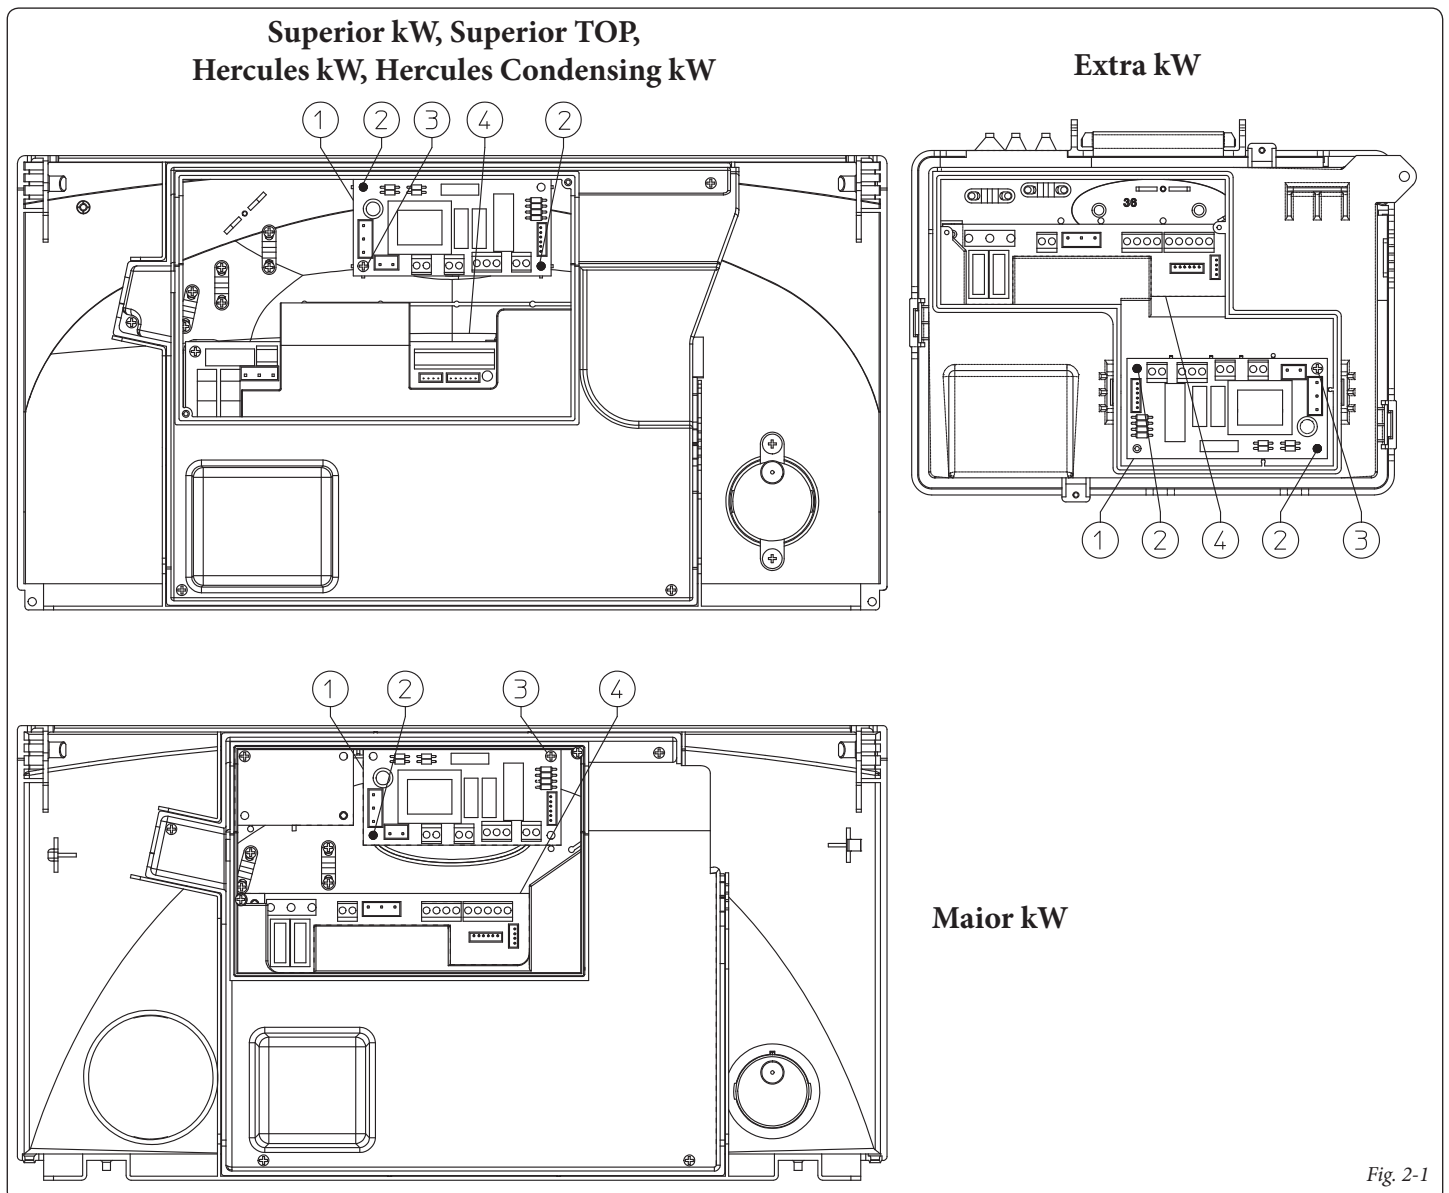

Fig. 2-1
- Mount the board making the male pins (2) match the holes in the board (1) and fix it using the cross-head screw (3) (see figure 2-1).
- Make the electric connections between the relay board (1) and the boiler P.C.B. (4) using the relative wiring composed of two cables supplied with the kit. Connect the external components according to requirements following the wiring diagrams given on the next pages.
- Open the control panel compartment to install the relay board (1) (see figure 2-1).